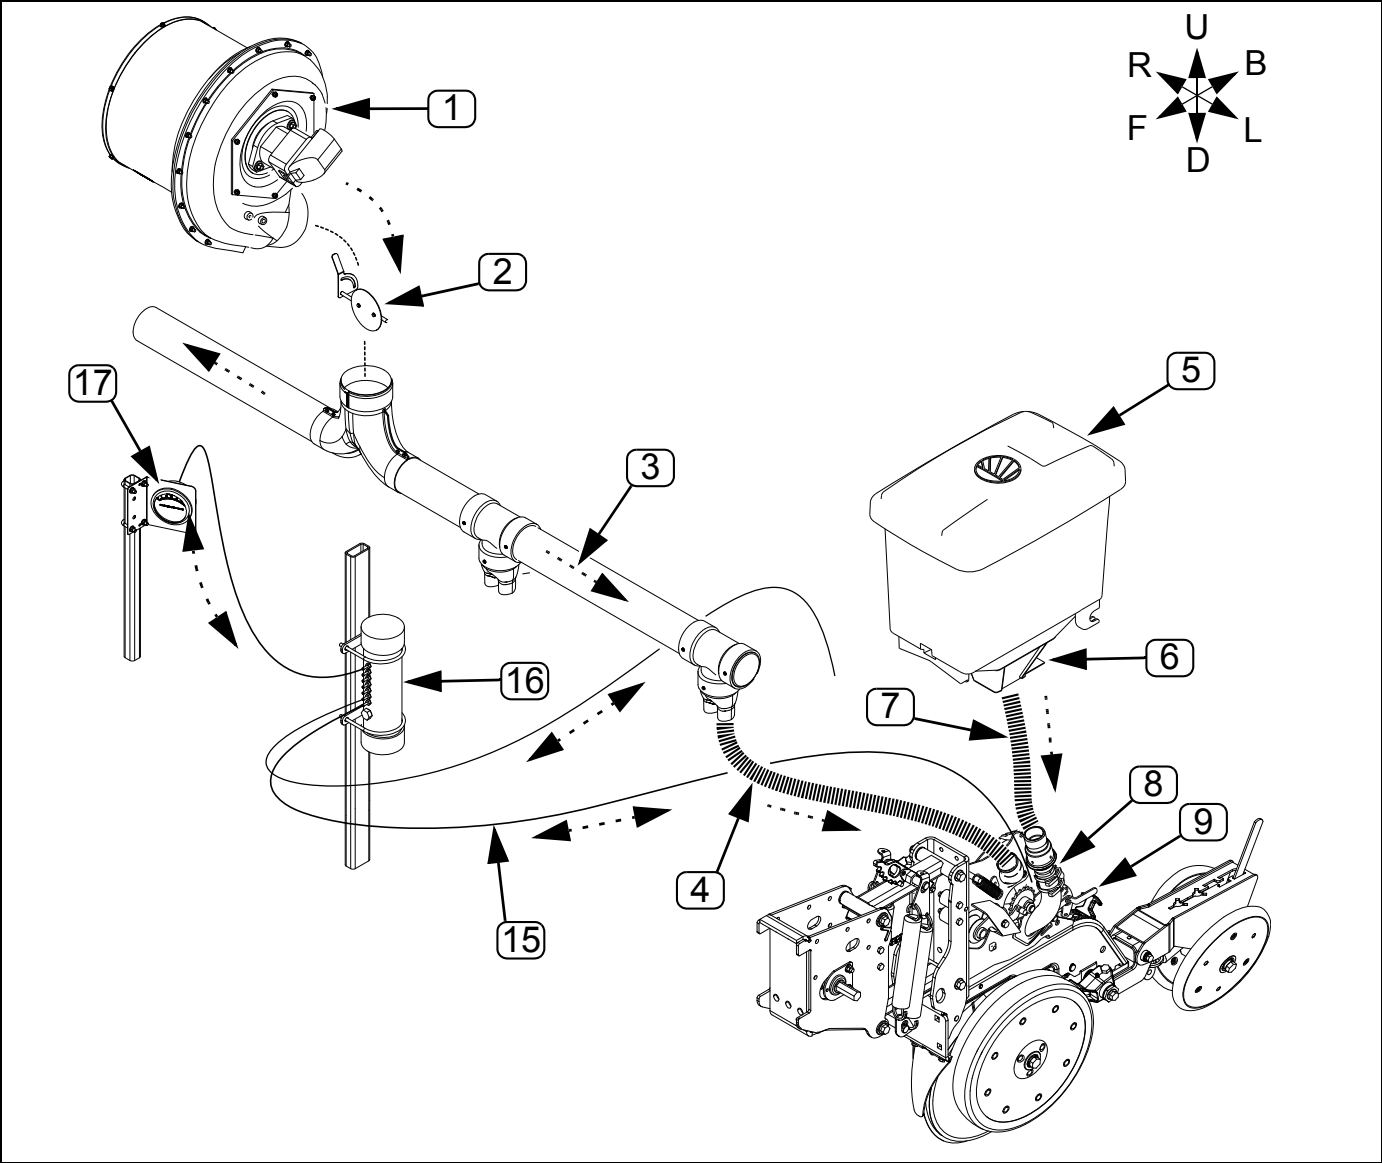
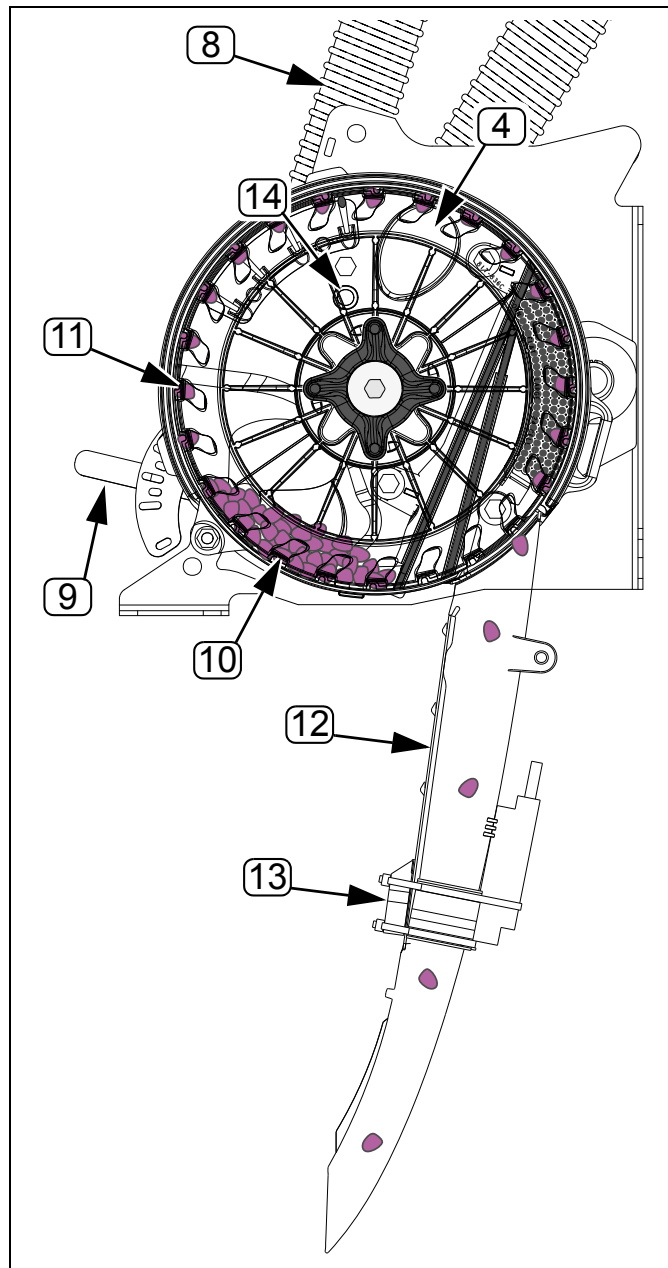

Figure 19
Figure 20
⑤ Seed Hopper	⑪ Disk Seed Pocket (Cell)	⑰ Magnehelic® Pressure Gauge
⑥ Slide Gate	⑫ Seed Hose (Figure 20)
Refer to Figure 19, on page 28, and Figure 20.